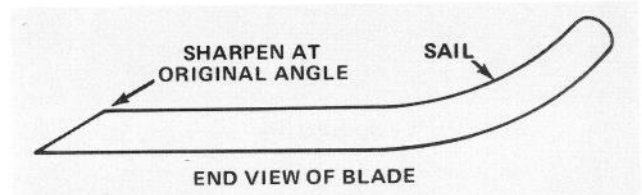

Figure 13
2. Inspect cutting edges of all blades. Sharpen the cutting edges if they are dull or nicked. Sharpen only the top of the cutting edge and maintain the original cutting angle to make sure of sharpness (Fig. 13). The blade will remain balanced if same amount of metal is removed from both cutting edges.